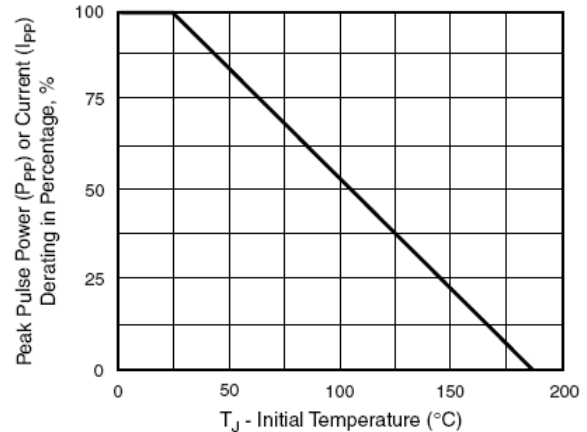
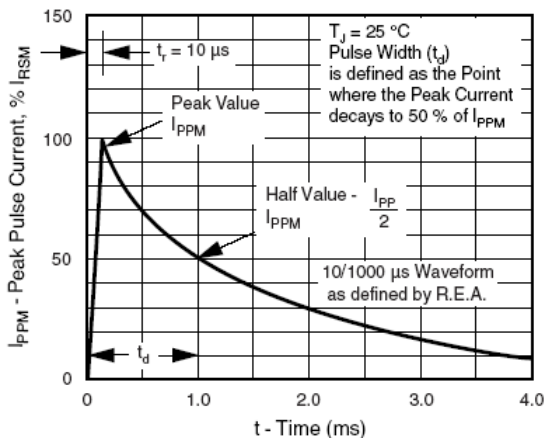

Figure 2. Pulse Power or Current Vs. Initial Junction Temperature
Figure 3. Pulse Waveform
(1) Non-repetitive current pulse, per Fig. 3 and derated above T_A = 25 °C per Fig. 2
(2) Measured on 8.3 ms single half sine-wave, or equivalent square wave, duty cycle = 4 pulses per minute maximum